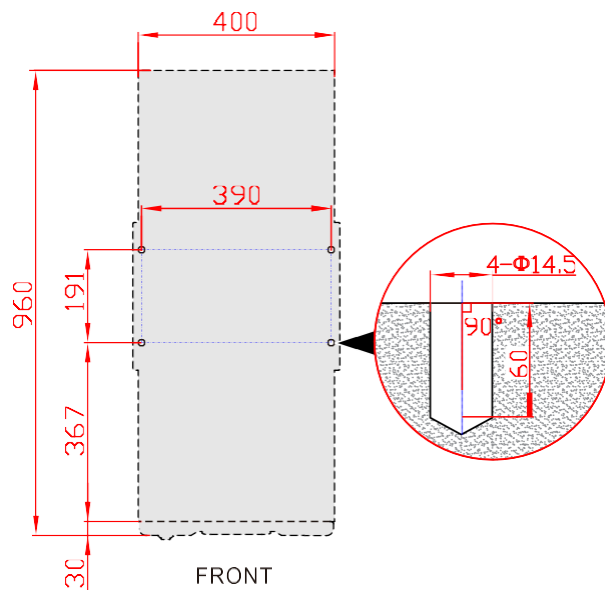

Figure3-10 Bottom installation size (bottom view of pedestal)(unit: mm)
Step 2 Drill four holes of $\Phi 14.5$ by hammer drill according to the installation size of pedestal (as shown in Figure3-10).